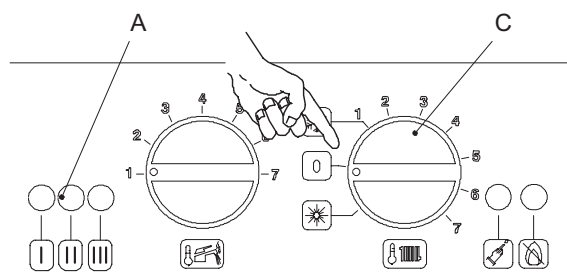

Figure 5.6
- To turn the boiler off set the function selector B to the position shown in the Figure 5.6.